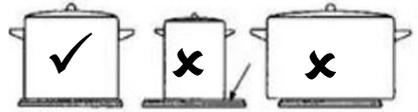

Fig. 15
- Use pans that are the same size or slightly larger than the hotplate (fig. 15). Smaller pans waste energy and oversized pans (>50mm over hang) can overheat the hob and cause cracks and damage.